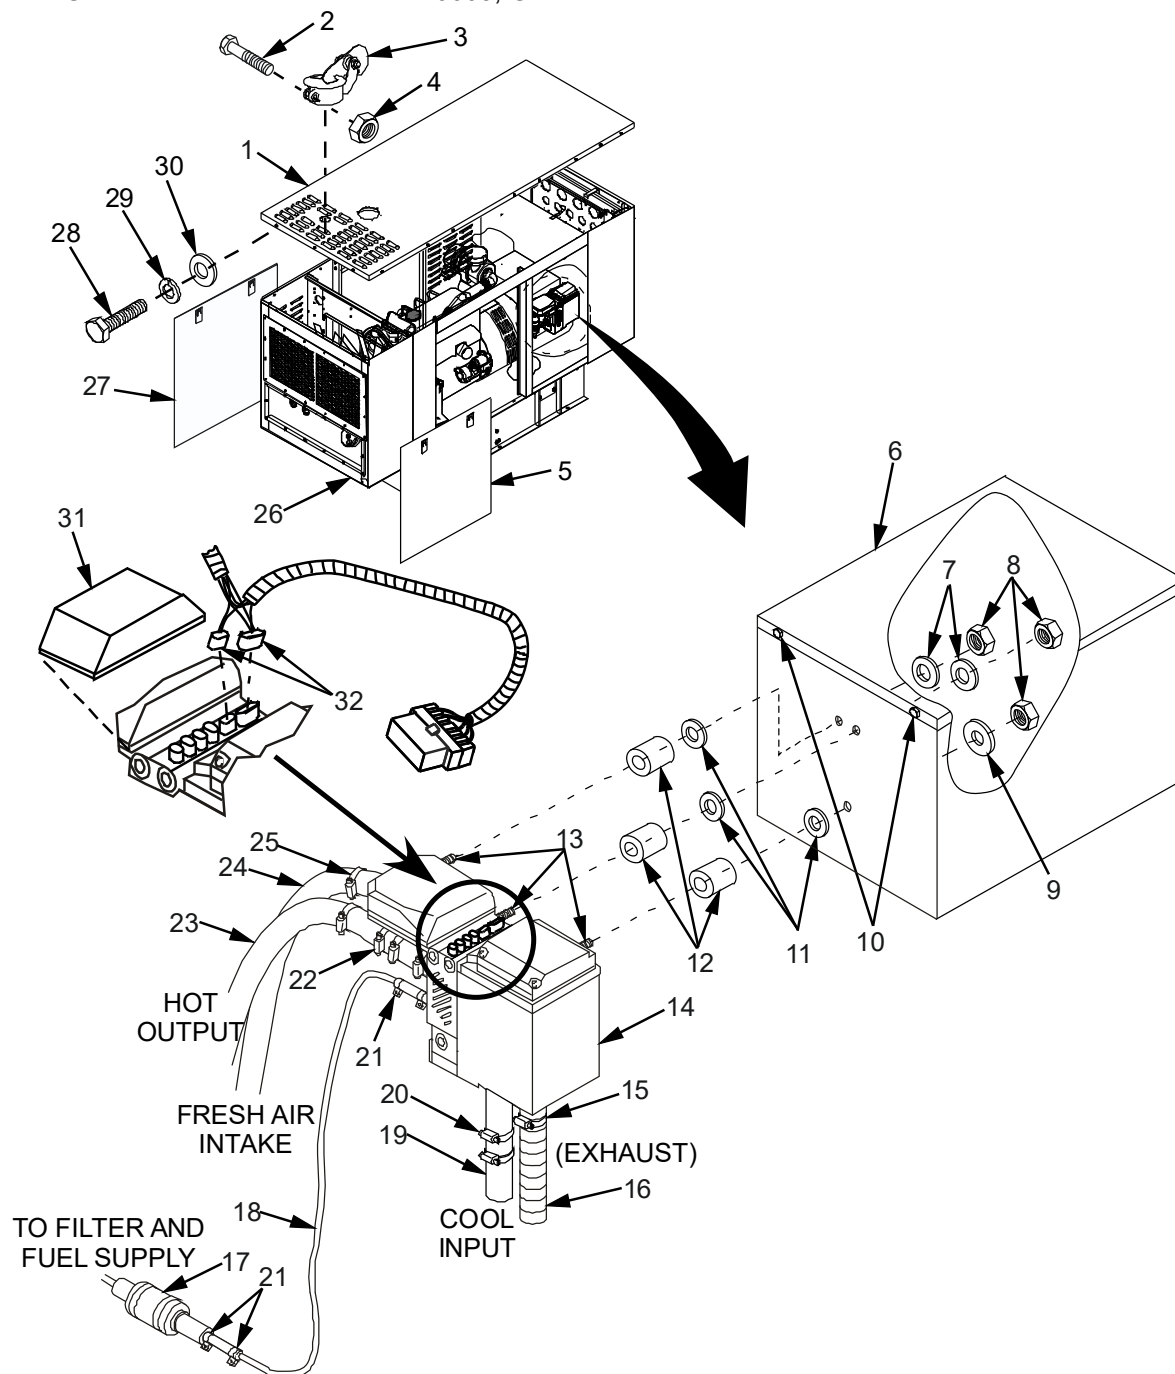

Figure 1. Engine Block Heater - Replace.
1. Verify that Genset (Figure 1, Item 26) has been shut down, engine is cool, and that BATTERY SWITCH is set to OFF (WP 0005, Genset Shut Down Procedure).
3. Loosen but do not remove nut (Figure 1, Item 4) and bolt (Figure 1, Item 2) that secures exhaust pipe cap (Figure 1, Item 3). Remove exhaust pipe cap (Figure 1, Item 3) and set aside.
4. Remove and retain 20 bolts (Figure 1, Item 28), lock washers (Figure 1, Item 29), and flat washers (Figure 1, Item 30) that secure top access panel (Figure 1, Item 1) to Genset (Figure 1, Item 26). Remove top access panel (Figure 1, Item 1) and set aside. Discard lock washers (Figure 1, Item 29).
5. Remove front access panel (Figure 1, Item 5) and set aside.
6. Remove rear access panel (Figure 1, Item 27) and set aside.
8. Loosen hose clamp (Figure 1, Item 21) on engine block heater fuel line (Figure 1, Item 18), at the fuel pump (Figure 1, Item 17) and disconnect fuel line (Figure 1, Item 18). Guide fuel line (Figure 1, Item 18) to spill bucket and allow fuel to drain out of system.
9. Loosen clamp (Figure 1, Item 20) that secures cool fluid input hose (Figure 1, Item 19) on the heater body (Figure 1, Item 14) and disconnect cool fluid input hose (Figure 1, Item 19).
10. Loosen clamp (Figure 1, Item 25) that secures fresh air intake hose (Figure 1, Item 24). Remove the fresh air intake hose (Figure 1, Item 24) from engine block heater body (Figure 1, Item 14).
11. Loosen clamp (Figure 1, Item 22) that secures hot output hose (Figure 1, Item 23) to the heater body (Figure 1, Item 14). Remove hot output hose (Figure 1, Item 23) from engine block heater body (Figure 1, Item 14).
12. Loosen clamp (Figure 1, Item 15) that secures exhaust hose (Figure 1, Item 16) to the heater body (Figure 1, Item 14). Remove the exhaust hose (Figure 1, Item 16) from engine block heater body (Figure 1, Item 14).
13. Remove engine block heater wiring harness access cover (Figure 1, Item 31) by carefully prying out on side of cover (Figure 1, Item 31).
14. Remove engine block heater external wiring harness connectors (Figure 1, Item 32).
15. Loosen four bolts (Figure 1, Item 10) that secure generator cover (Figure 1, Item 6). Remove generator cover and set aside.
16. Remove and retain three nuts (Figure 1, Item 8), two flat washers (Figure 1, Item 7), and one large flat washer (Figure 1, Item 9) that secure engine block heater body (Figure 1, Item 14) to side panel.
17. Remove engine block heater body (Figure 1, Item 14), three threaded studs (Figure 1, Item 13), spacers (Figure 1, Item 12), and flat washers (Figure 1, Item 11).
- Inspect engine block heater fuel pump (Figure 1, Item 17). Ensure that fuel pump is not excessively damaged or otherwise appears to be unserviceable.
1. Insert three spacers (Figure 1, Item 12) and flat washers (Figure 1, Item 11) onto threaded studs (Figure 1, Item 13) on engine block heater body (Figure 1, Item 14).
2. Align engine block heater body (Figure 1, Item 14) with proper holes on side panel and secure using two flat washers (Figure 1, Item 7), and one large flat washer (Figure 1, Item 9), and three nuts (Figure 1, Item 8).
3. Connect engine block heater fuel line (Figure 1, Item 18) from fuel pump (Figure 1, Item 17) to engine block heater (Figure 1, Item 14). Secure with clamp (Figure 1, Item 21).
4. Connect cool fluid input hose (Figure 1, Item 19) to proper port on engine block heater (Figure 1, Item 14). Secure with hose clamp (Figure 1, Item 20).
5. Connect fresh air intake hose (Figure 1, Item 24) to proper port on engine block heater body (Figure 1, Item 14). Secure with clamp (Figure 1, Item 25).
6. Connect hot output hose (Figure 1, Item 23) to the engine block heater body (Figure 1, Item 14). Secure with clamp (Figure 1, Item 22).
7. Connect exhaust hose (Figure 1, Item 16) to proper port on heater body (Figure 1, Item 14) and secure with clamp (Figure 1, Item 15).
10. Install generator cover (Figure 1, Item 6) and secure using four bolts (Figure 1, Item 10).
11. Connect engine block heater external wiring harness (Figure 1, Item 32) and replace access cover (Figure 1, Item 31) on engine block heater.
12. Install top access panel (Figure 1, Item 1) onto Genset (Figure 1, Item 26) and secure using 20 bolts (Figure 1, Item 28), new lock washers (Figure 1, Item 29) and flat washers (Figure 1, Item 30).
13. Install exhaust pipe cap (Figure 1, Item 3) and tighten nut (Figure 1, Item 4) and bolt (Figure 1, Item 2) that secure exhaust pipe cap (Figure 1, Item 3).
14. Install access panels (Figure 1, Items 5 and 27).